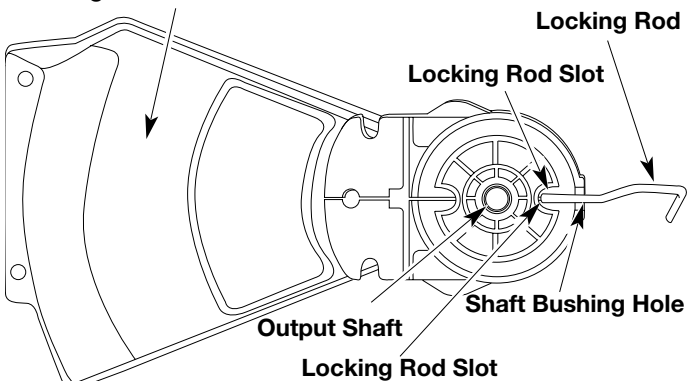

Fig. 11
- Align the blade driver hole with the locking rod slot and insert the locking rod into the blade driver hole (Fig. 11).